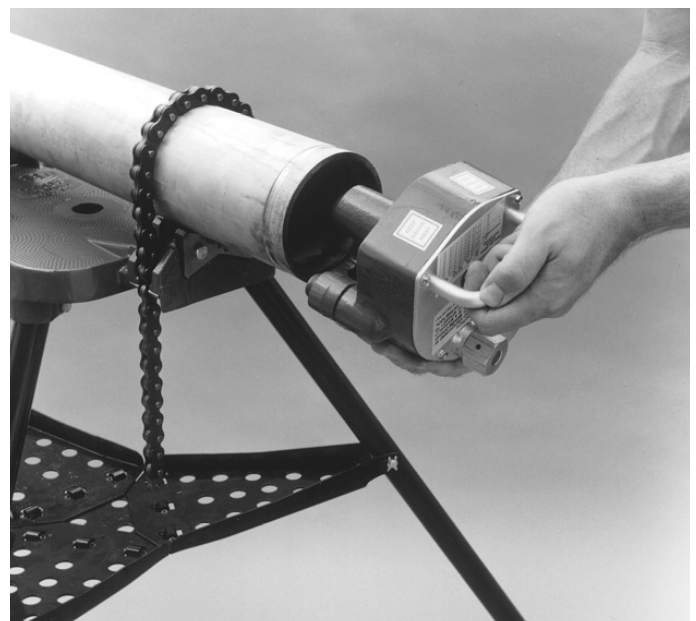

Fig. 6. Dismounting the tool.
3. Lift the tool and remove it from the pipe. (See Fig. 6.)